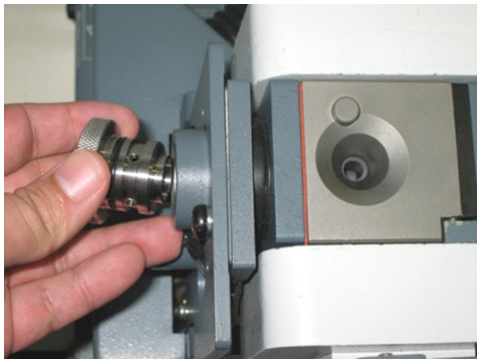

Figure 2. Removing an end window
- 2 Remove the two end windows from the workhead (refer to Figure 2).